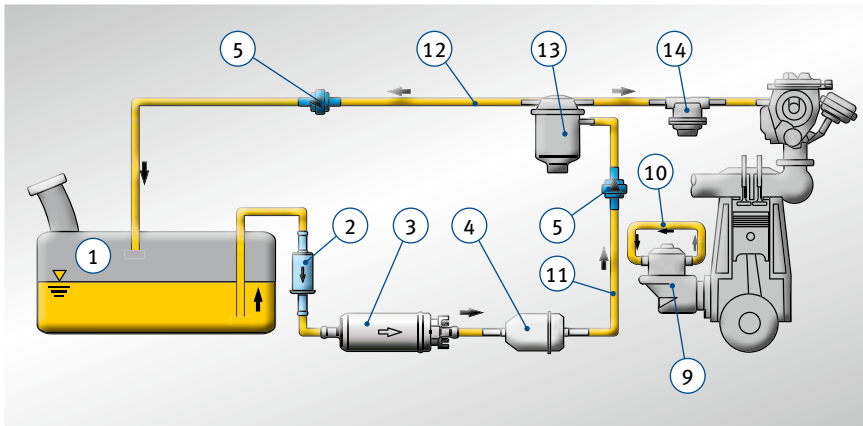

Fig. 6: Replacement for a mechanical fuel pump
**Example: Replacement for a mechanical fuel pump (Fig. 6)**